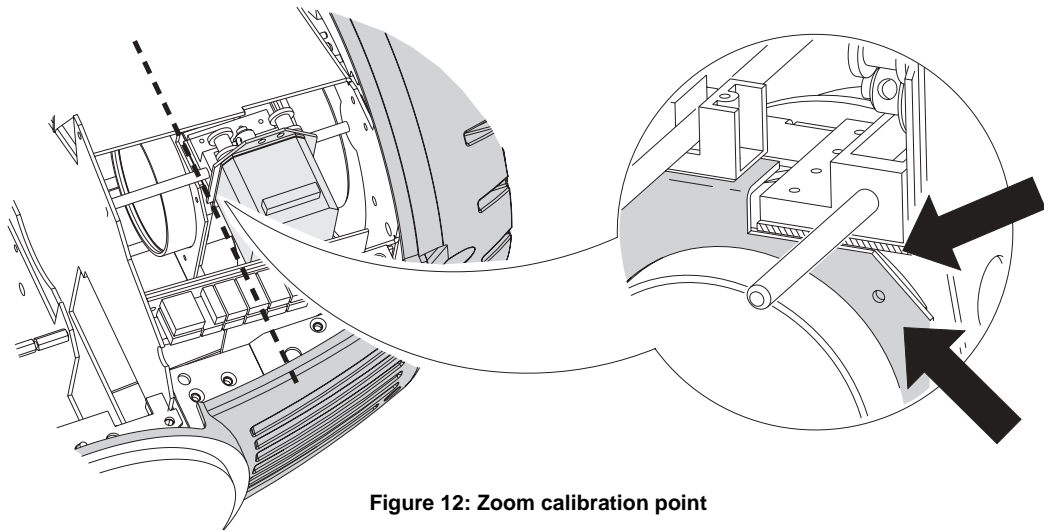

Figure 12: Zoom calibration point
- 2 To calibrate zoom, first remove the bottom head cover. Select UTIL / CAL / ZOOB and press [Enter]. Adjust the offset until the face of the zoom lens plate is flush with the back edge of the focus plate (Figure 12). Press [Enter] to save the setting. Replace the bottom head cover.